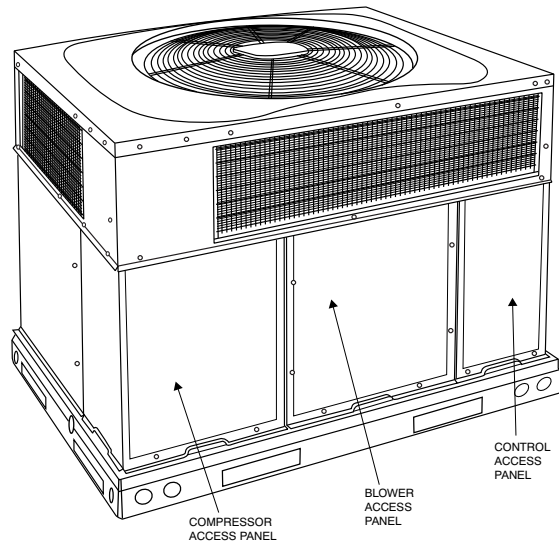
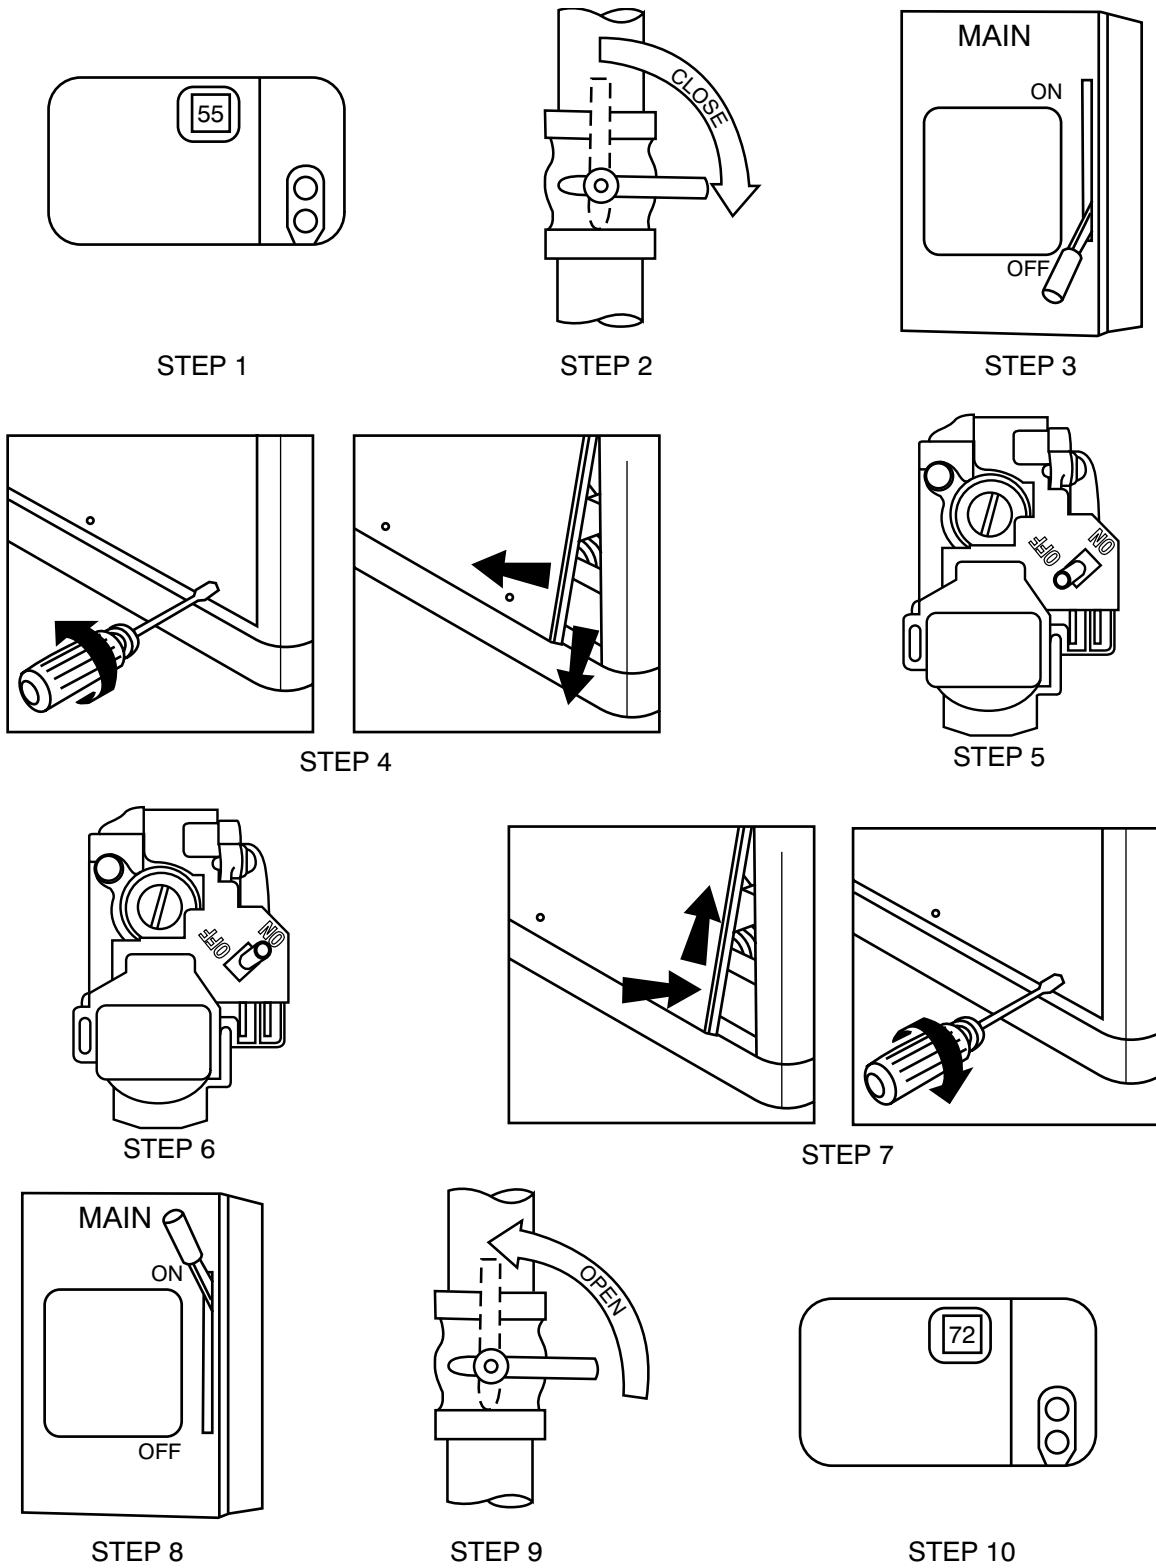

Fig. 2 – Unit Access Panels
Fig. 4 – To Start Unit Gas Heat
Refer to Fig. 2 for location of unit front access panel. Refer to Fig. 4 for location of gas valve. Refer to Fig. 4 while proceeding with the following steps.
4. Remove the control access panel with a 5/16-in. nut driver. (See Fig. 2.)
4. Remove the control access panel. (See Fig. 2.)
To replace or inspect filters in accessory filter rack (See Fig. 2):